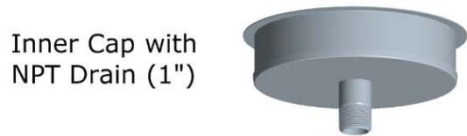

Figure 14 – Drain Tee Cap (DTC)
The Drain Tee Cap (DTC) is used as a drain for the base of vertical installations and must be connected to a suitable disposable point. It can also be used as an access for clean outs or access purposes. (See **Figure 14**) Installation is the same as a Tee Cap (TC).